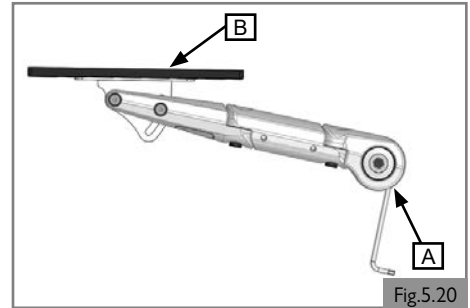
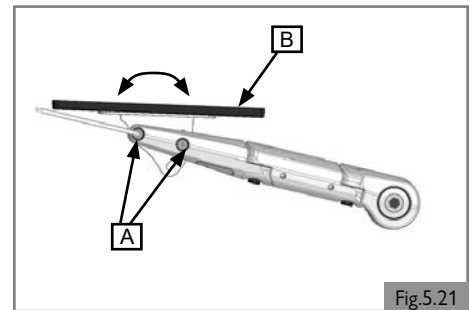

Fig.5.20
Fig.5.21
##### Part 1 (Fig. 5.20)
##### Part 2 (Fig. 5.21)
2. Loosen (A) in order to adjust (B).
3. Retighten screws (A-Fig. 5.20 and A-Fig. 5.21). See section 9 for specified torque values.